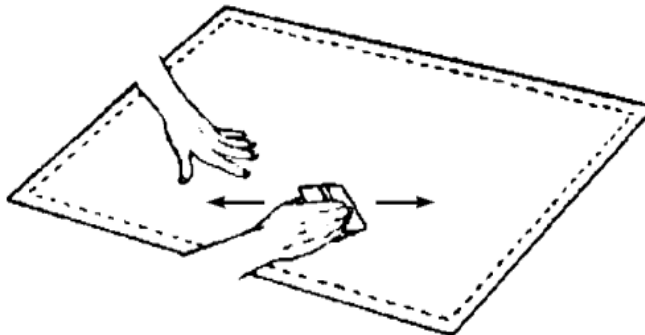

Figure 4. Squeegee the Graphic and Application Tape
3. Squeegee the graphic from the liner side to adhere the application tape. Work from the center out. See Figure 4.